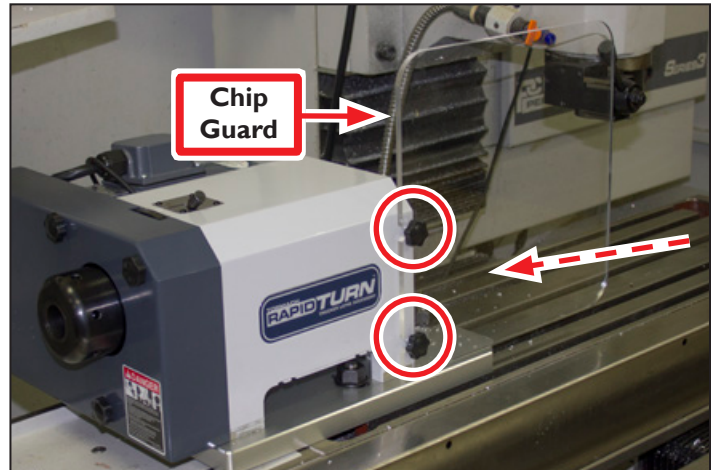

Figure 2.28
1. Loosen two thumbscrews on RapidTurn headstock (see **Figure 2.28**).
2. Orient Chip Guard with two slots in line with two thumbscrews on RapidTurn headstock; slide through groove on base plate as shown in **Figure 2.28**.